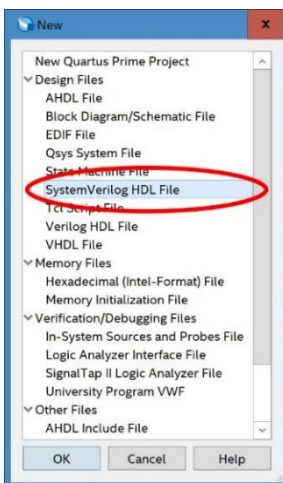

Figure 1: Creating a new SystemVerilog file in Quartus
- a. **Create a SystemVerilog file.** Go to File→New, select “SystemVerilog HDL File”, and hit “OK” (*Figure 1*). System Verilog is “modern” Verilog and has a lot of nice features over previous versions of Verilog.